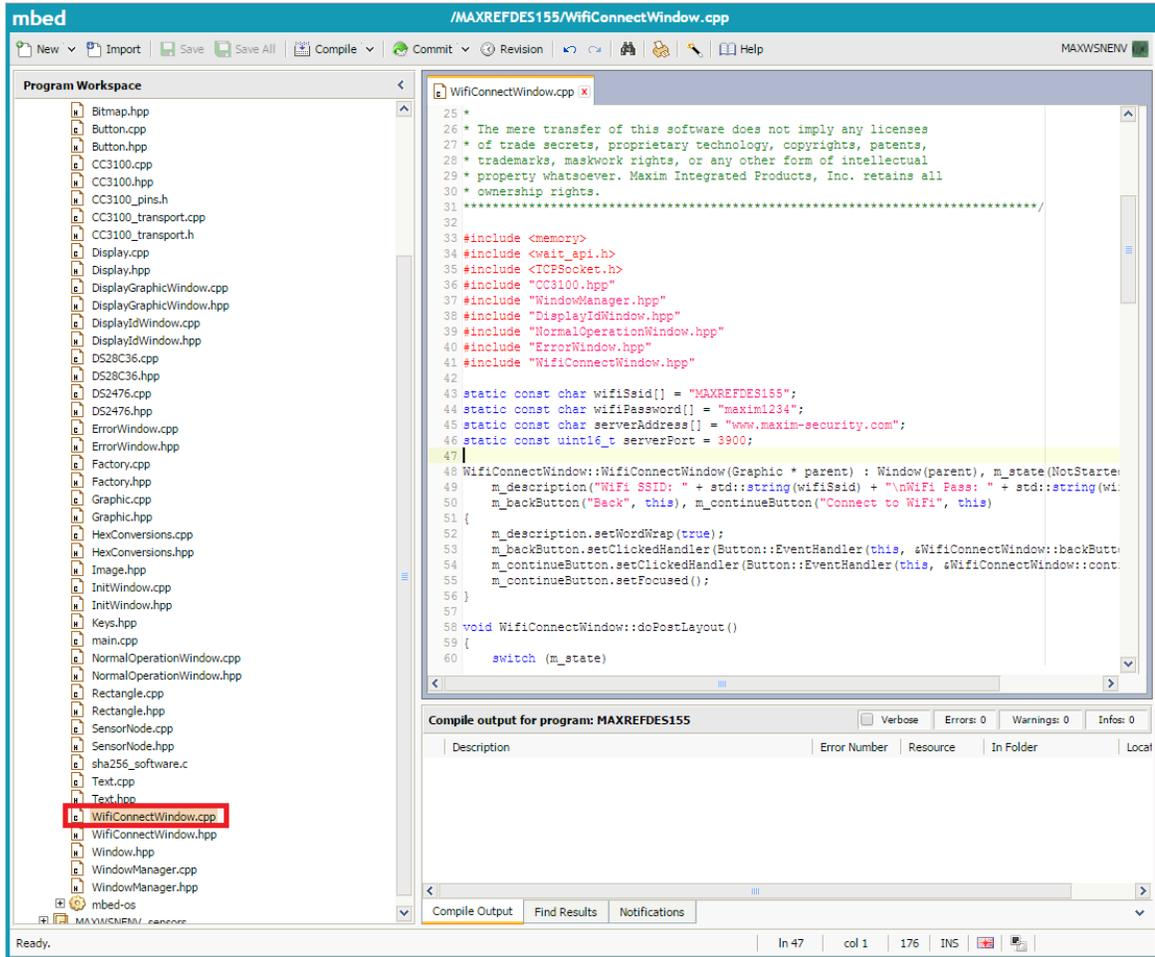

Figure 4. Open the Wi-Fi connect source file.
- Open the source file `WifiConnectWindow.cpp` in the imported copy of `MAXREFDES155` (Figure 4).